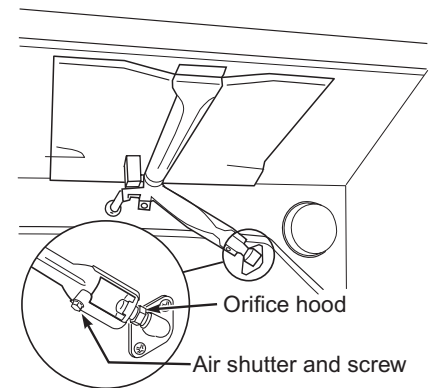

Figure 12
7. Broil burner: See Figure 12. Use 1/2" combination wrench to turn the orifice hood down snug onto pin (approximately 2 to 2-1/2 turns). **Do not overtighten.** The burner flame cannot be properly adjusted if this conversion is not made.
4. See Figure 12. Loosen the lock screw on the air shutter located at the rear of the broil burner. Adjust the air shutter as needed. Tighten lock screw.